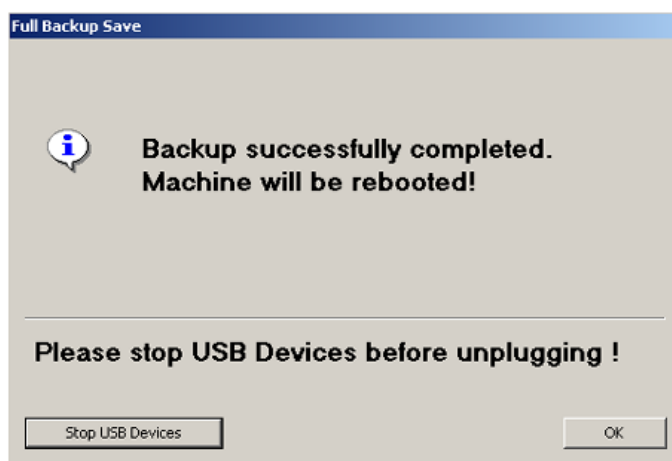

Figure 4-29 Please stop USB Devices before unplugging!
**NOTICE** When the backup is saved to an external USB-device, the system has to be informed about the removal of the hardware. For this purpose every last dialog of "Full Backup Save" and "Full Backup Delete" has a STOP USB DEVICES button (see: Figure 4-29).